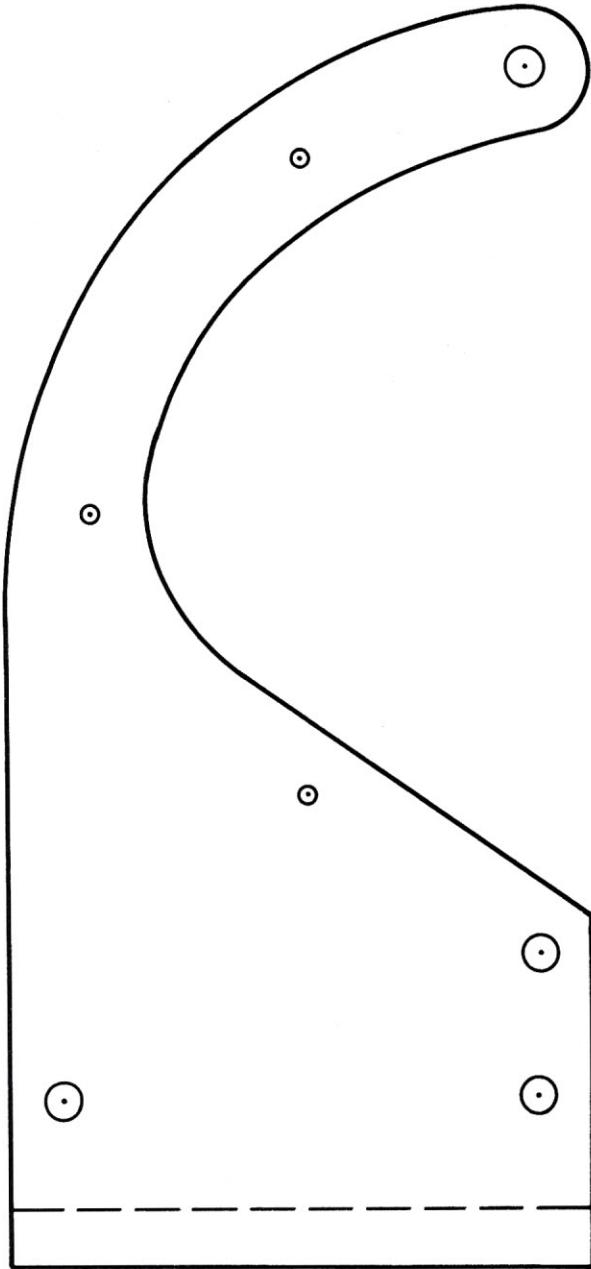

Figure 2: Template for the back finger plate.
- Two back finger plates made from $1/16$ inch sheet aluminum (see figure 2).